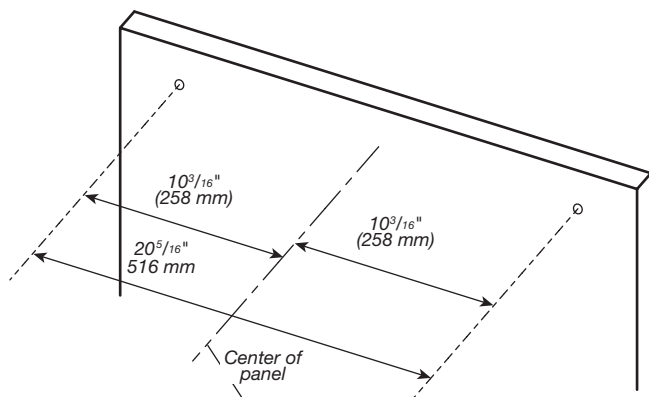

Figure 1
1. Measure from the center of the custom panel and mark the holes location as shown in Figure 1
2. Drill 3/16" (4.76 mm) diameter holes at marked locations (refer Figure 1).